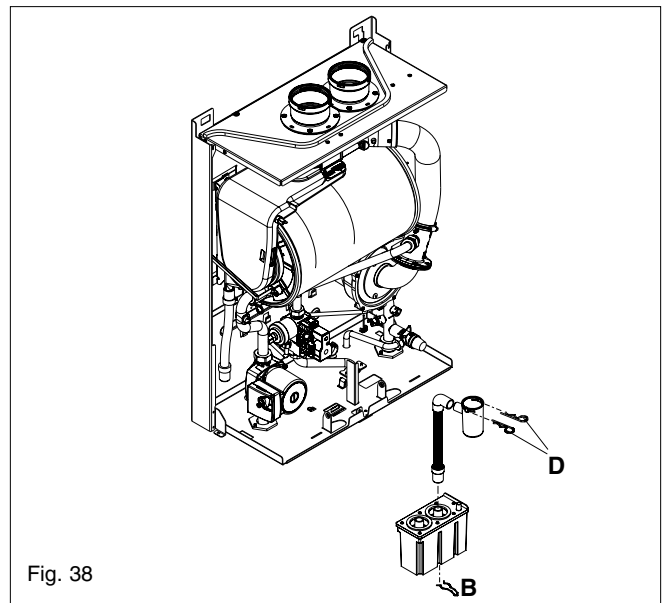

Fig. 38
6.18 CONDENSE TRAP AND COLLECTOR REMOVAL (fig. 38)